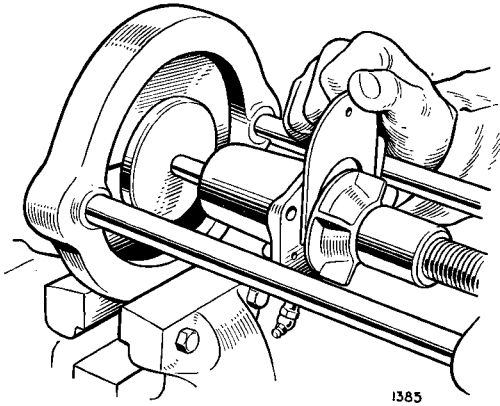

Fig. 10. Using gauge to obtain 0.030 in. (0.762 mm.) clearance between impeller and housing face
Using a tubular drift install shaft and bearings into housing (13) and secure with circlip (5). Press seal (14) into impeller (16). Using a 0.030 in. (0.762 mm.) spacer press impeller (16) on to shaft (12) as shown in Fig. 10. Solder end of impeller to shaft to prevent water seeping along shaft. Fit Woodruff key, pulley, and fan blades.